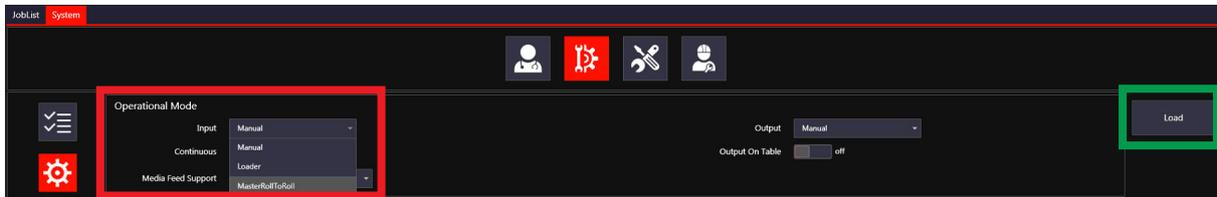

Fig.5-15: System Window - Manual Mode
- Step 1: Unload the previous mode configuration, select the manual configuration from the system pane (outlined in red in Fig.5-15) and press the load button (outlined in green in Fig.5-15). Refer to Input and Output Modes on the Tauro.